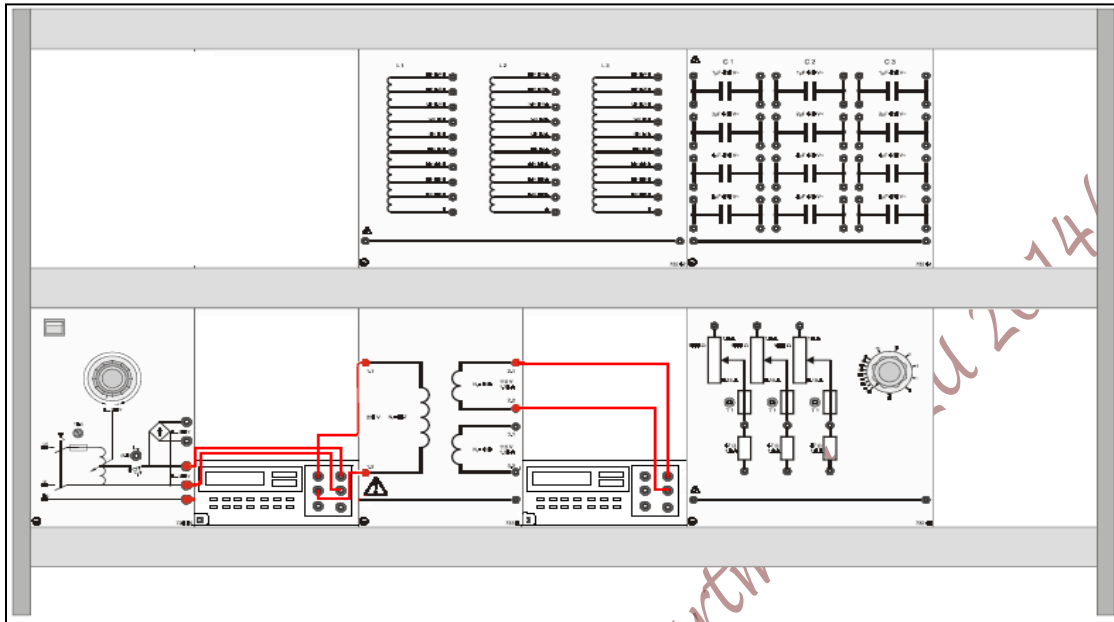

Figure 2.12: Arrangement of Units for Single-phase Toroidal Core Transformer Experiments
1. Set up the circuit as shown in Figure 2.12